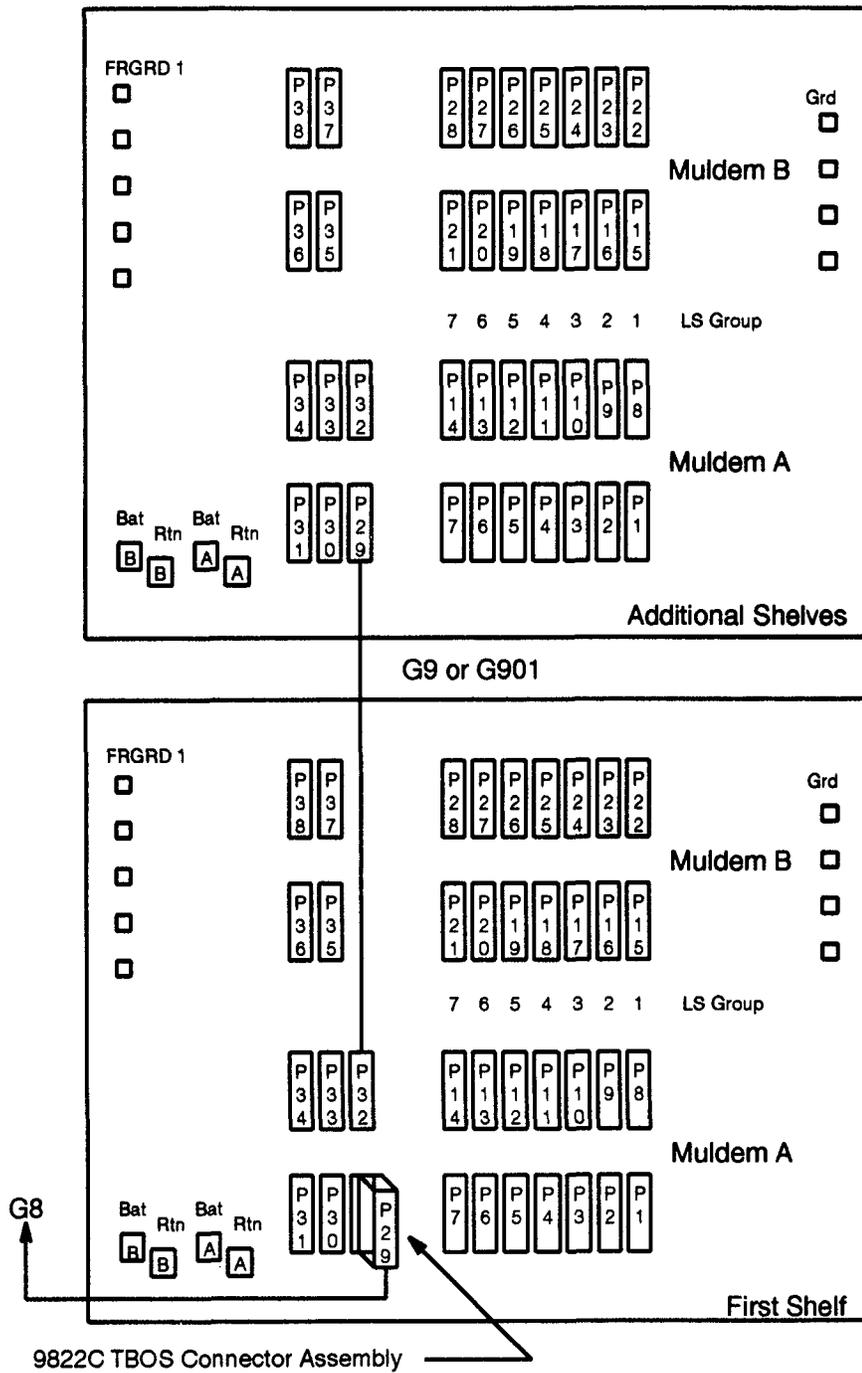

Figure 1. Serial Telemetry Cabling
16. Refer to **Figure 1**. Dress and tie the cable to the horizontal and vertical protecting bars attached to the backplane.